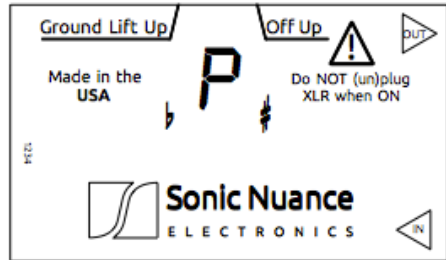

Figure 3: PLAY Mode Display
8) Note and Mode display. When the Power Switch (3) is in the ON position, the TDI can be in one of two modes. In MUTE mode, this shows the note detected (8) on the input jack. In PLAY mode, it indicates a "P" as in Figure 3.